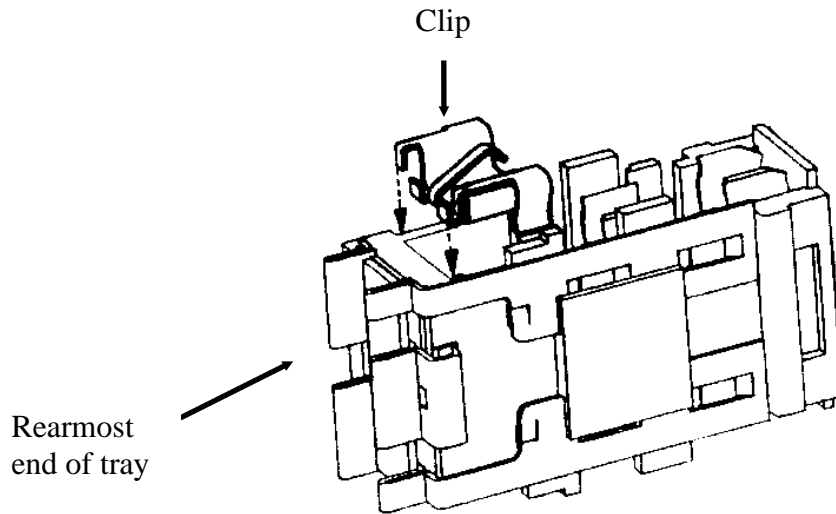

Figure 2-3
4. Holding the fuse tray in the exact orientation shown in Figure 2-3, observe the small clip shown and grasping at the two sides of the clip gently remove from the tray assembly as shown in Figure 2-3.
5. Observe the shorting clip placement as shown in Figure 2-3. Place a shorting clip **by hand** onto the tray as follows. **The tray must be oriented as drawn** (the marking PRSR will be at the top of the fuse tray front). **The clip must be oriented as shown with the “finger” at the center pointing toward the front of the tray. Do not bend this finger or the required connections will not be made. Grasping the clip only at the sides**, slide it down into place on the tray. The base of the clip will insert into the cavity in the tray when it is placed in the correct position. Place one fuse into the compartment in the side of the fuse tray opposite the side with the clip. The fuse rating **must be as shown on the back of the pump cabinet**. An 1-1/4” long American fuse will extend for the full length of the tray. A shorter 20 mm long European fuse **must** be placed fully to the rearmost end of the tray (closest to the metal tabs extending from the tray) or contact will not be made and the unit will not operate. Both the clip and the fuse must be present in their proper places or the unit will not operate.